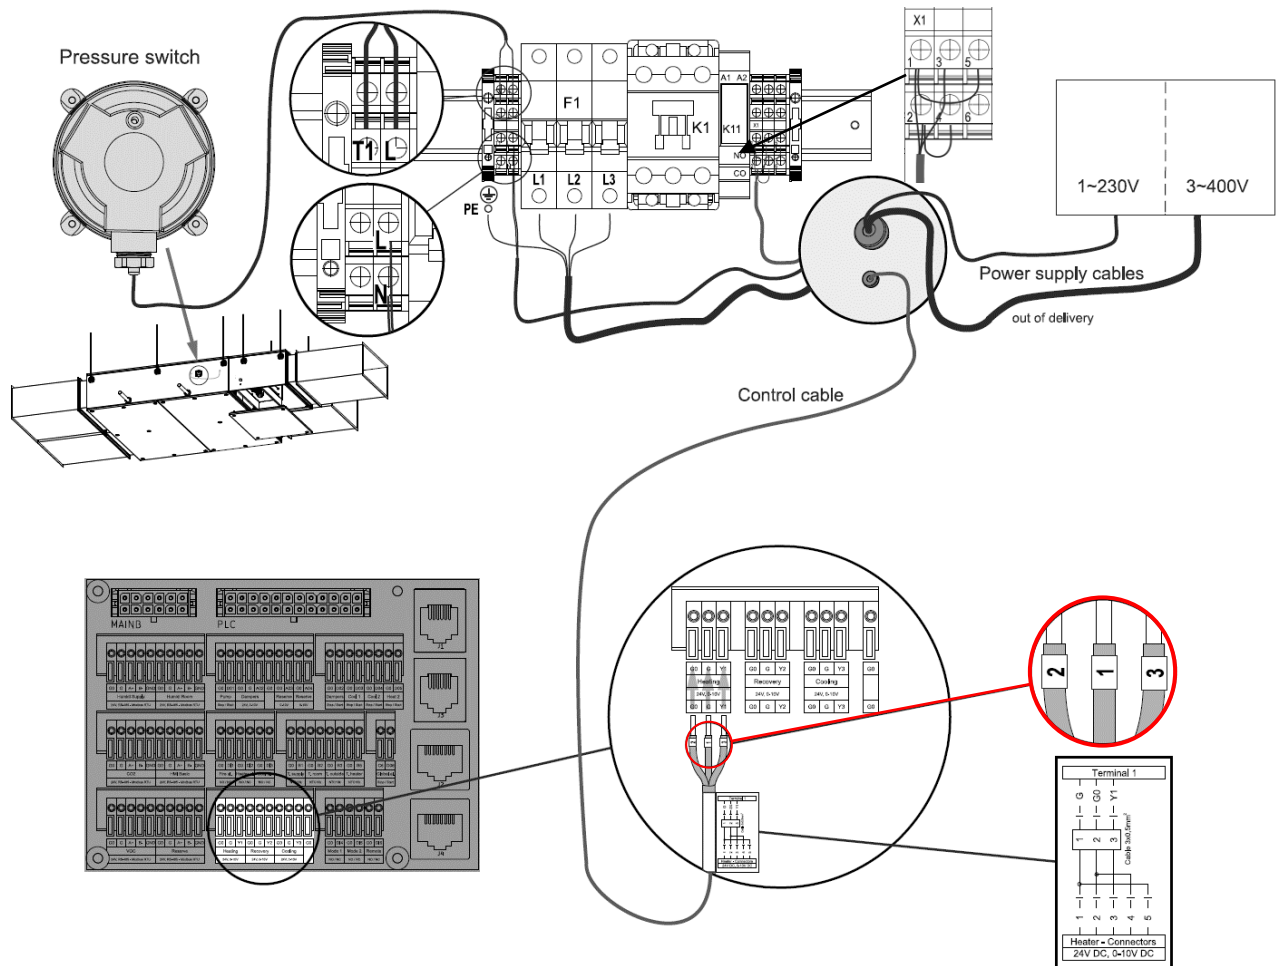

Figure 14 - Electric heater connections
Make all connections (power and control) of the electric heater as shown on Figure 14
- Pressure switch cable – will be connected to the T1 and L terminals of the electric heater (Figure 14).
- Power supply cable (3x400 VAC) – will be crossed through the power gland (the large one) and connected to the L1, L2 and L3 power terminals located of the F1 power mains switch (Figure 14).
- Auxiliary power supply cable (1x230 VAC) will be crossed through the power gland (the large one) and connected to the L and N terminals (Figure 14).
- Control signal cable – will be crossed by the control gland (the small one) and connected to the X1 terminal block (Figure 14).